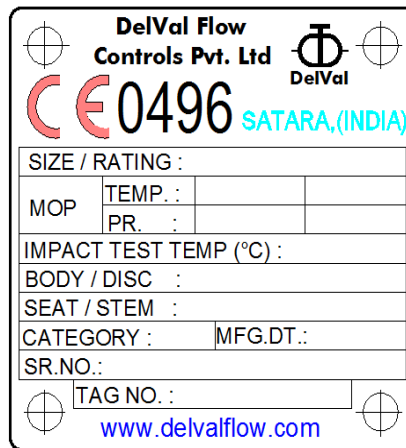

FIG.14. CE NAME PLATE
- 13.2.1. Each valve has a stainless steel name plate fixed to the body. The nameplate is marked with details such as the materials of construction, maximum operating temperature and pressure as shown below in Fig.14.